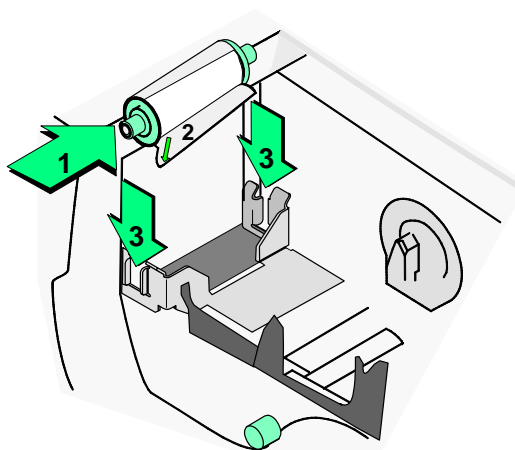

Figure 4-5: Replace the cleaning roller sleeve
- 6 Slide a new replaceable cleaning sleeve onto the spindle (step 1 in Figure 4-5).
- 7 Hold the replaceable cleaning roller spindle by the ends and remove the protective cover from the sleeve (step 2 in Figure 4-5). Discard the protective cover.
- 8 Continue to hold the spindle by the ends. Replace the spindle with sleeve in the printer (step 3 in Figure 4-5).